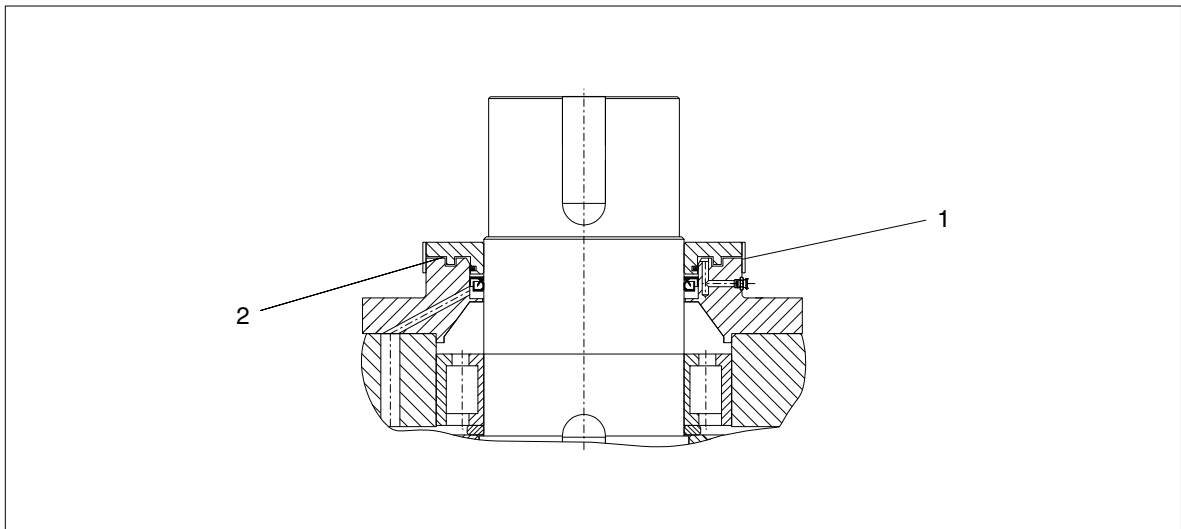

Fig. 9: Tacolab seal
¹⁾ In case of Tacolab seal only (see item 5.7.3 and/or figure 9).
2) In case of Tacolab seal only (see item 5.7.3 and/or figure 9).